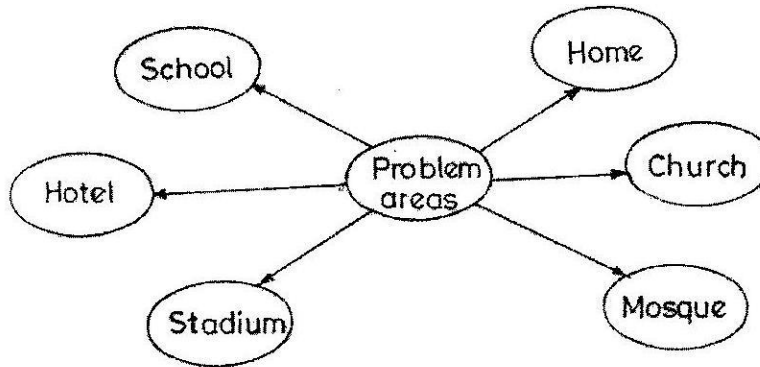

Figure 2
Figure 2 shows a design process. Use it to answer questions 11 and 12
11. Figure 2 shows the method of
12. Which of the following design process stages follows the method shown in figure 2?